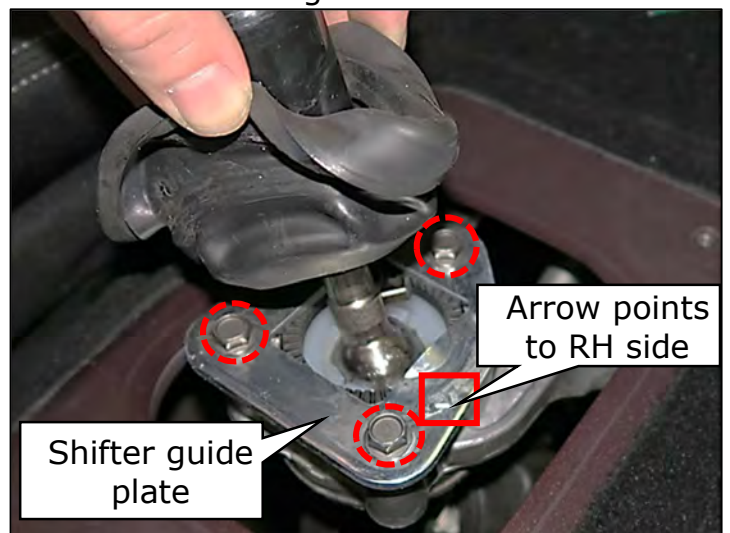

Figure 101
- Push the shifter down until the shifter guide plate is flush with the transmission bracket (Figure 101)
- Start the (3) bolts by hand
- Temporarily tighten the (3) shifter guide plate bolts